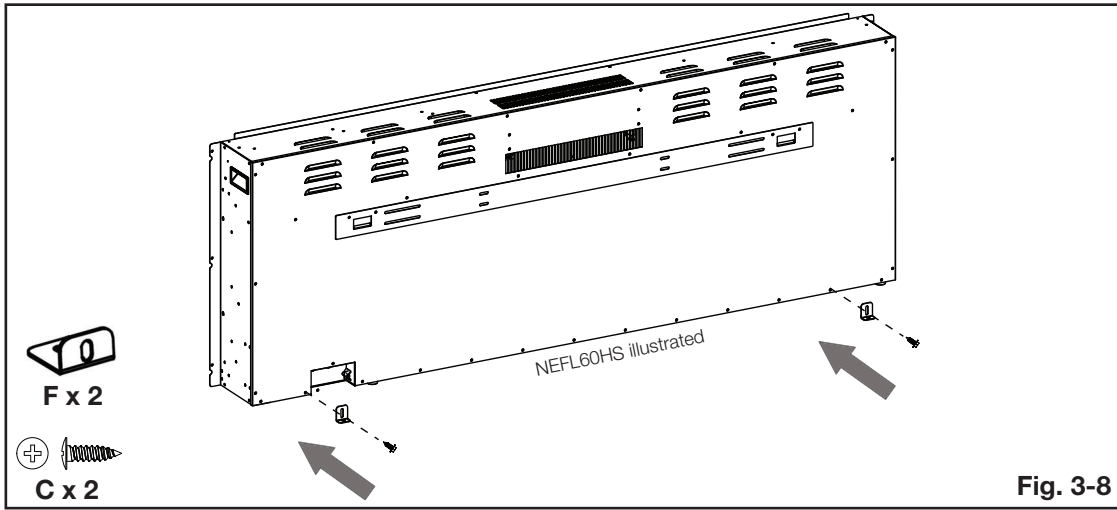

Fig. 3-8
- C. Remove the 2 screws from the appliance and then re-use them to fix 2 brackets (supplied) in place (**Fig. 3-8**).